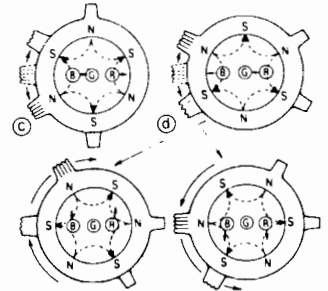

Figure 6
4. Move the two Purity Magnets and bring the Magenta belt to the mechanical center of the screen (See Fig. 5). The vertical center position should be set VRS to $-5/64$ " (-2 mm) as shown in Fig. 6.